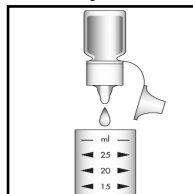

Figure 2
2. Add 6 drops of A-2700 Neutralizer Solution (fig. 2). Stir briefly with the tip of the ampoule to mix the contents of the sample cup.